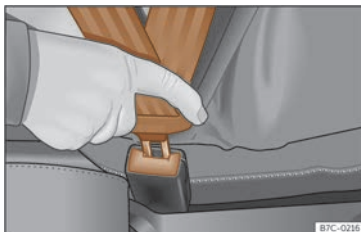

Fig. 23 Insert the latch plate of the seat belt into the buckle.
- Insert the buckle plate in the buckle of the correct seat >>> **Fig. 23.**